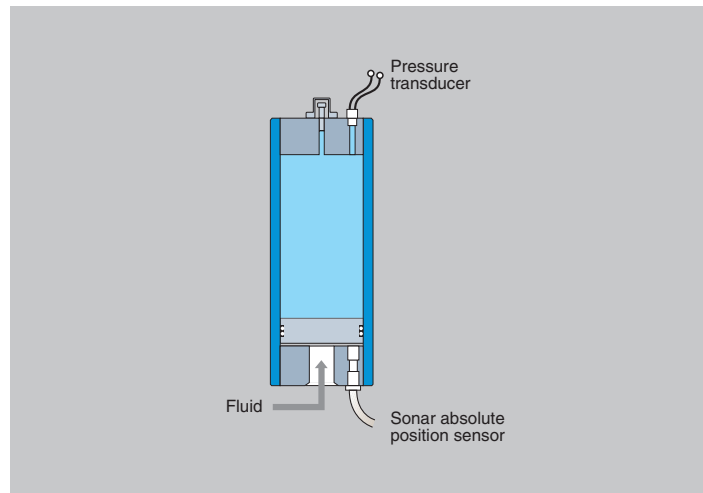

Fig. 14b Position sensor can provide continuous indication of precharge pressure
Several methods can be used to monitor the precharge pressure of Parker's piston accumulators. Note that, in Figs. 14b and 14c, flat pistons must be used to enable the sensors to register their positions.
- With the hydraulic system operating. A piston position sensor is installed in the hydraulic end cap (Fig. 14b) and connected to an electronic measuring system. With an accurate initial precharge and after sufficient system operation to ensure thermal stability, the electronics can be calibrated to provide a continuous and accurate read-out of precharge pressure.